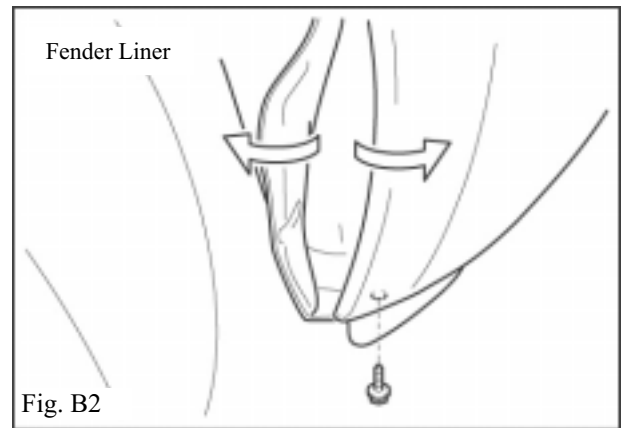

Fig. B2
3. Remove the screw securing the fender liner. (Fig. B2)
i. Carefully pull and loosen the fender liner. (Fig. B2)